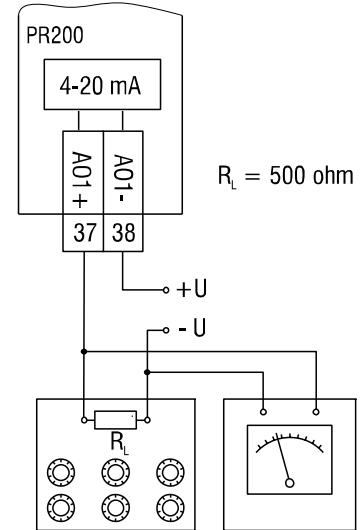

Fig. E.4
- Connect an auxiliary voltage source, a measuring device of resolution 0.001 V and a reference resistance box of accuracy class at least 0.05 to the output (Fig. E.4).